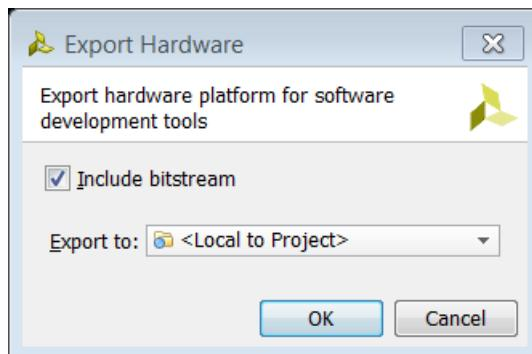

Figure 136: Export to Hardware Dialog Box
2. In the Export to Hardware dialog box, select the **Include bitstream** check box, shown in Figure 136. Make sure that the **Export to** field is set to **<Local to Project>**.